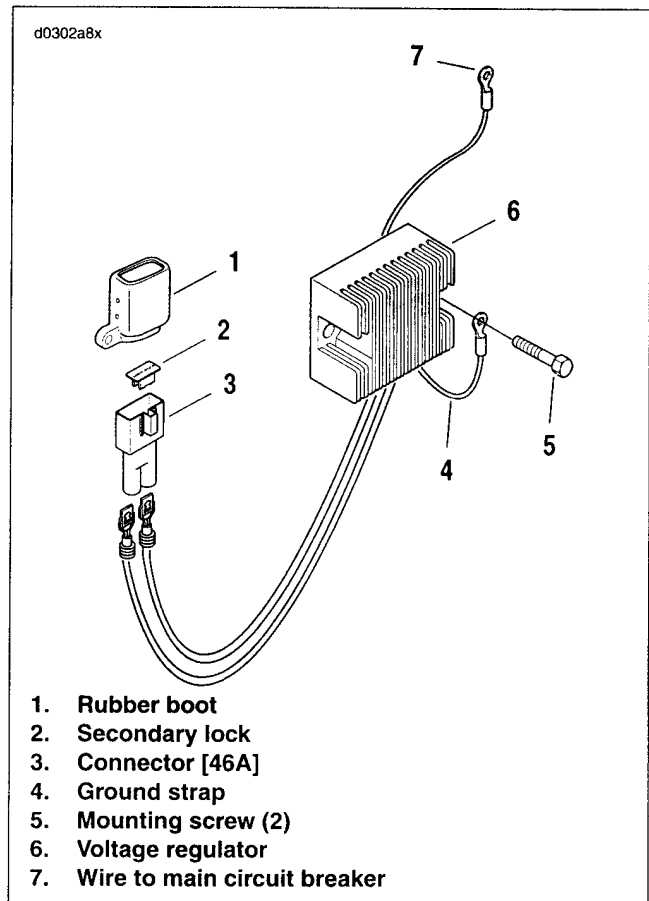
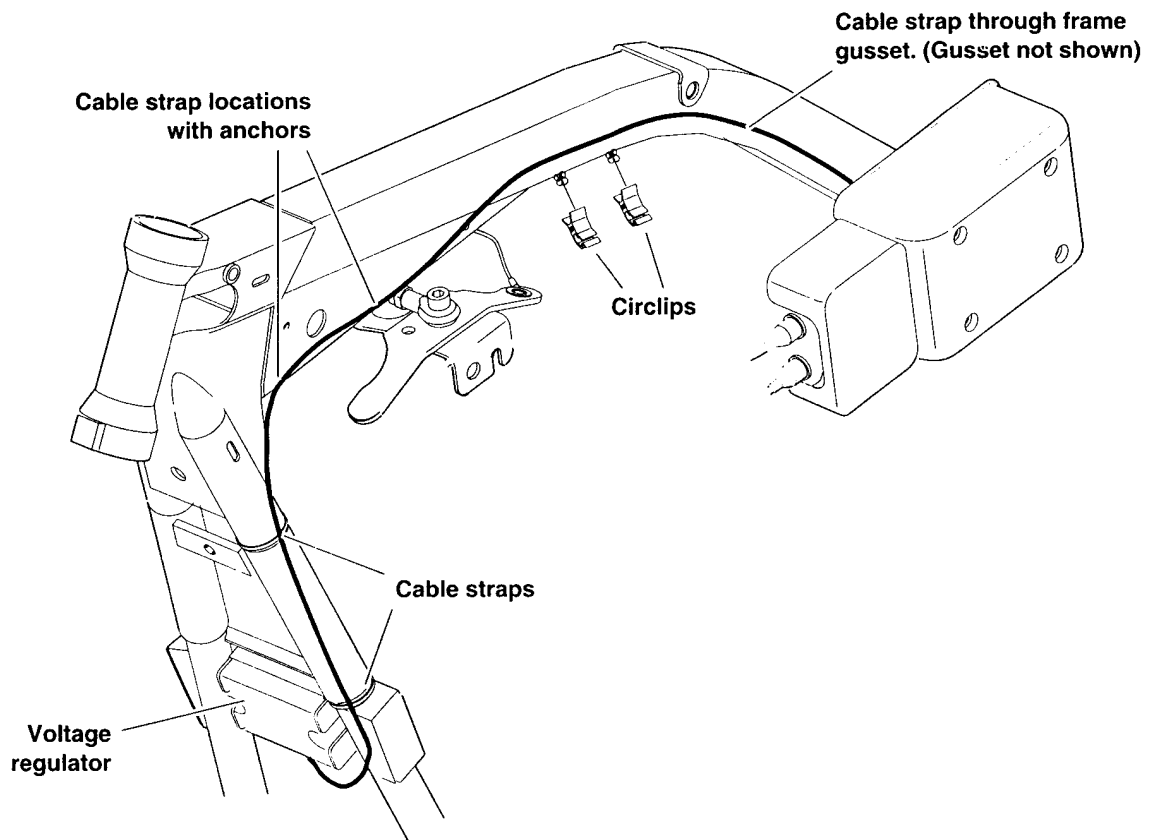

Figure 8-29. Voltage Regulator Assembly
Figure 8-30. Voltage Regulator Wiring
5. See Figure 8-29. Remove the two mounting screws (5) and regulator (6).
6. Remove secondary locks (2) and wires (pull) from connector [46A].
1. See Figure 8-29. Insert wires into connector [46A]. Install secondary lock (2) to connector [46A].
2. Attach regulator (6) with two mounting screws (5). Make sure the short ground strap (4) is secured under the left side mounting screw. Tighten screws to 60-80 in-lbs (6.8-9.0 Nm).
3. See Figure 8-30. Route wiring.